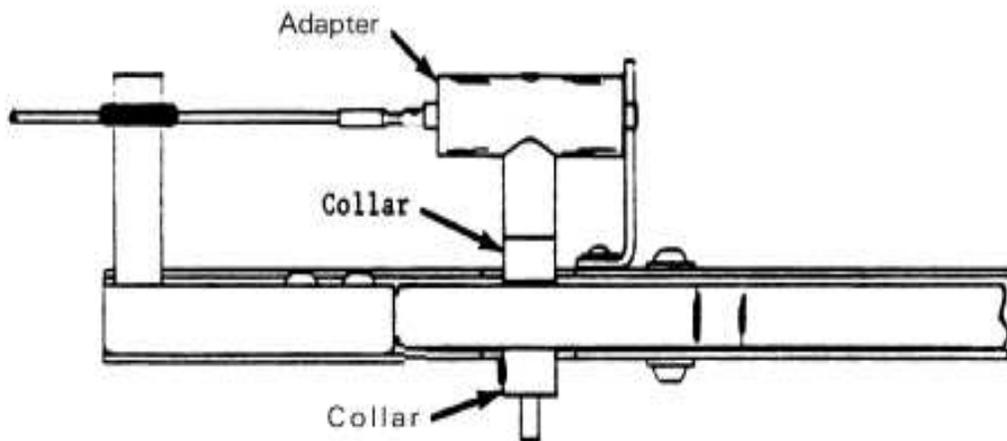

Figure 6-2. Adapter Installation on AD-1567 Holding Fixture
1. Install the AT-1319-24 adapter onto the AD-1567 holding fixture (See Figure 6-2).